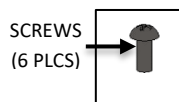

FIG. 5 RED BAG
- a. SCREWS. (as shown in FIG. 5)